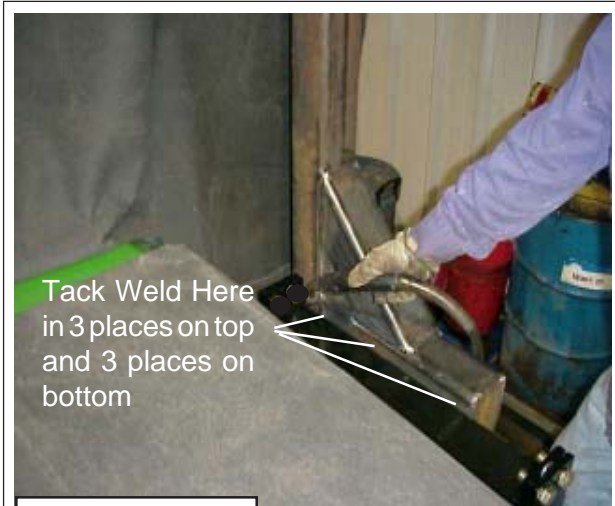

Figure 42
7. Tack Weld Mounting Tubes to High Frame. The Mounting tubes will be Tack Welded to the High Frame in 3 places on top and 3 places on the bottom, on both LH & RH Side (See **Figure 42 & 43**). These Tack Welds need to be done in an alternating pattern so Mounting Tubes do not Lift or move. There should not be any gaps between Frame Rails, High Frame or Mounting Tubes. Do this on LH and RH Frames.